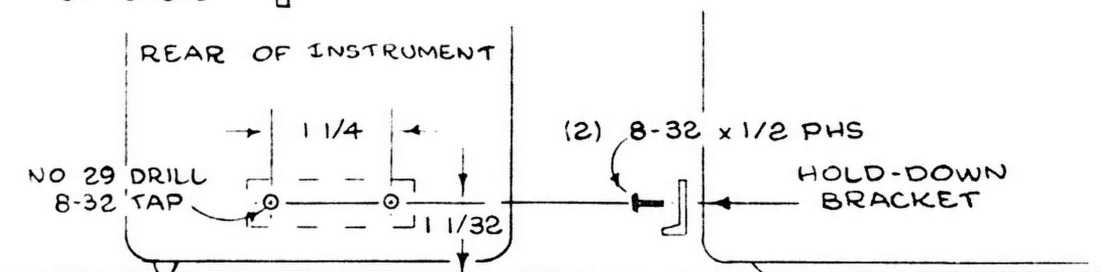

FIG. 3
- () 4. Relocate the voltage tap on the middle left hand side of the instrument, use a #43 drill (see Fig. 3).
- () 5. Mount the hold-down bracket (from kit) on the rear panel of the instrument, as near to the vertical center line as possible (see Fig. 3).
- () a. Drill and tap the two holes in the rear panel shown in Fig. 3. Use a #29 drill and an 8-32 tap.